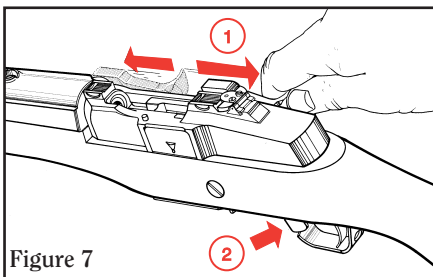

Figure 7
2. Pull the slide handle all the way to the rear and release. Make sure safety is “ON” (See Fig. 7). NOTE: Hammer must be cocked and safety must be “ON” to accomplish disassembly and reassembly. **Again, be sure chamber is empty!**